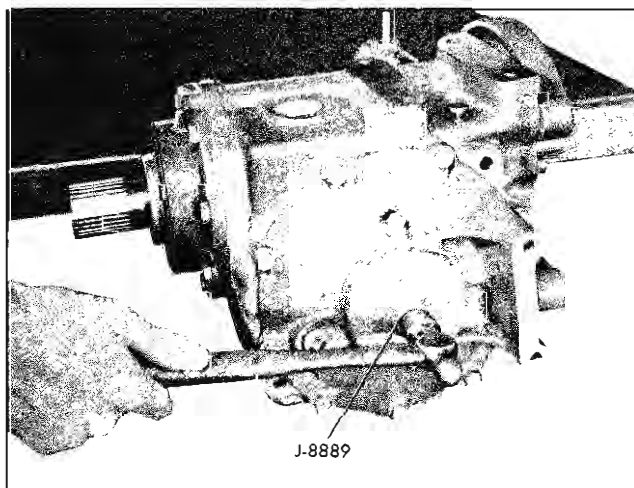

Fig. 4-6 Installing Side Bearing Oil Seal
8. Install new side bearing oil seal using tool J-8889 (Fig. 4-6). Coat lip of seal and splines with hypoid oil to help prevent damage to seal by splines of the U-joint yoke.